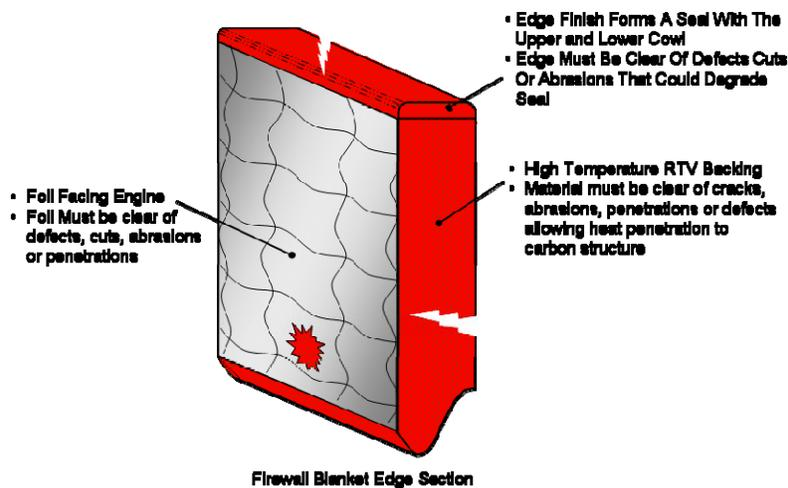

Figure 71-38 Firewall Blanket Edge Section
2. Visually inspect condition of firewall blanket for tears or discoloration indicating excess heat exposure of the facing sheet materials or surrounding sealant materials as shown in Figure 71-38. Tears or discoloration is unacceptable.